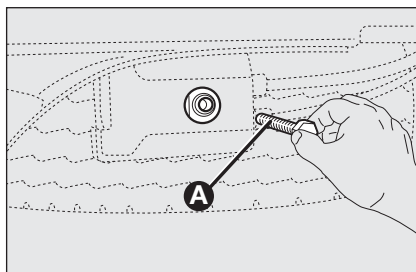
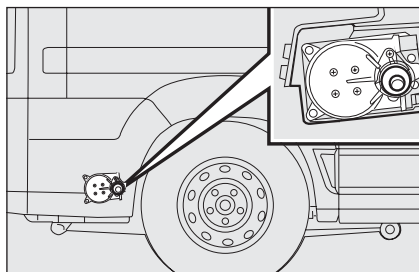

fig. 5b
fig. 5a
- ☐ for all versions, when gaining access via the vehicle's right rear wheel arch **fig. 5a**, adjust the screw for the wheel retaining device, using the spanner provided with the extension/adaptor **A** - **fig. 5b**;
- ☐ introduce the wheel wrench on the bolt fig. 5a-5b and turn it clockwise to allow the spare wheel to be raised until it is resting completely on the housing under the floor pan;